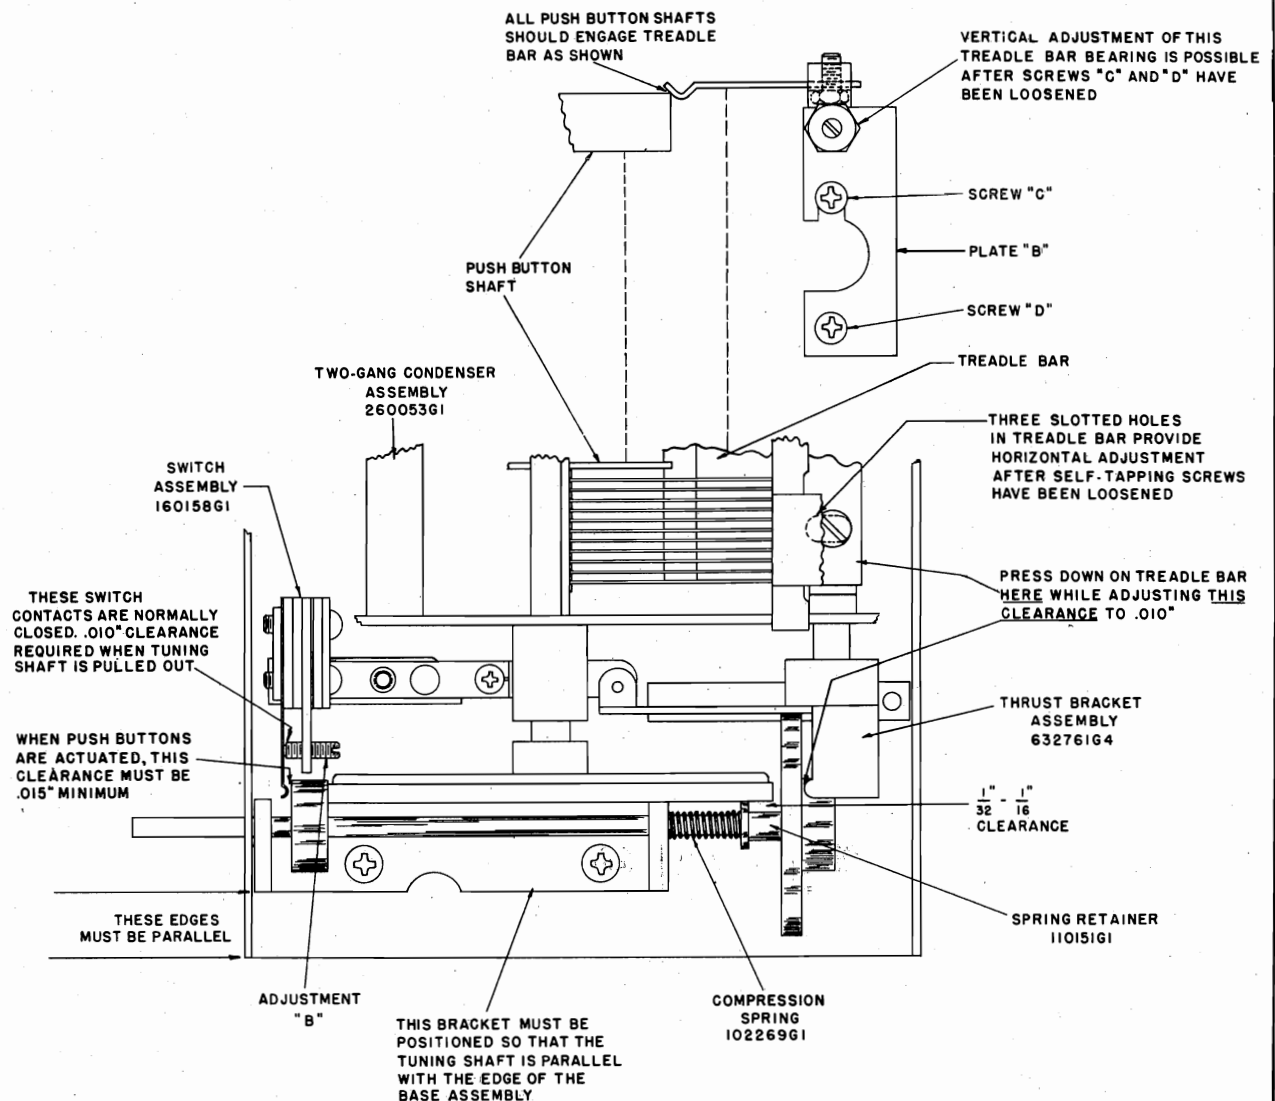

FIGURE 3
1. Assemble the Tuning Shaft, Drive Collar, Compression Spring, Spring Retainer and Flywheel in the manner shown on Figure 3. Note that the Tuning Shaft must extend  $\frac{3}{4}$ " from the front of the assembly and that the spacing between the rear of the Drive Collar and the front of the Flywheel must be 3-5/64". Any excess length in the Tuning Shaft may extend beyond the rear of the Flywheel. See Figure 2.
2. The distance between the rubber-tired Drive Wheel and the smaller diameter section of the Spring Retainer must be  $\frac{1}{32}$ " to  $\frac{1}{16}$ " (Figure 3). This adjustment is effected by loosening the two No. 6 Allen set screws in the Drive Wheel hub and sliding the wheel on its shaft until the required clearance is obtained. When the adjustment is completed, tighten the two screws in the hub of the Drive Wheel.
3. While pressing down on the Treadle Bar at the location shown on Figure 3, adjust the Thrust Bracket until the clearance between the rear of the Flywheel and the projection on the Thrust Bracket is .010" as shown on the diagram. To make this adjustment, loosen the two No. 6 Allen set screws (use No. 6 Allen Wrench—Magnavox Part No. 800044G2) in the hub of Thrust Bracket and rotate the bracket until the specified clearance is obtained when the push buttons are NOT actuated. Tighten the two screws securely when the adjustment is completed. Press each push button and check that the Drive Collar is pushed away from the rubber-tired Drive Wheel.
This can usually be accomplished by loosening the two screws designated "C" and "D" on Figure 3, and moving plate "B" in the direction required to correct this condition.